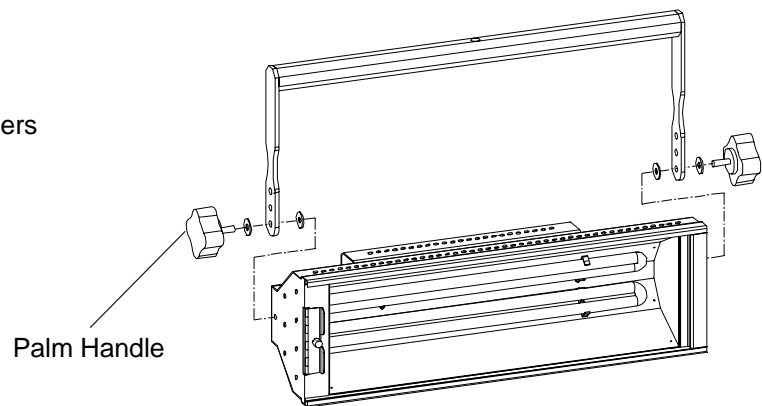

Figure 1
1. Assemble palm handle, yoke and washers as shown (Fig. 1).